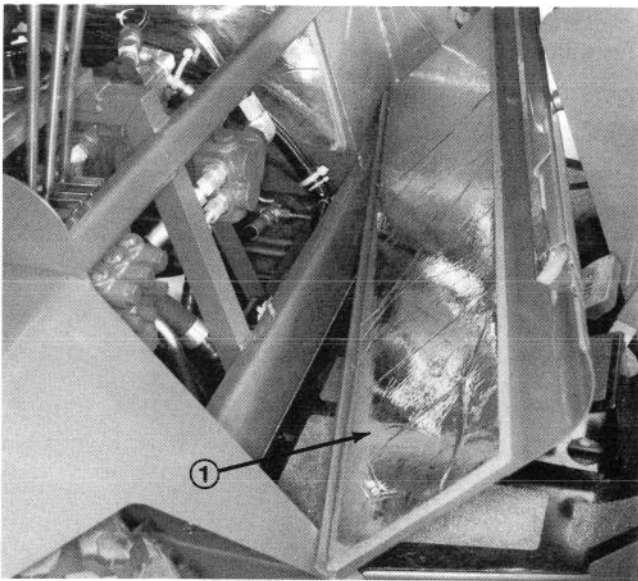

Figure 18
3. Lift and remove front panel (Fig. 18).
5. Install front panel over mounting pins (Fig. 18). Lower seat to its normal position and secure with lock pin (Fig. 16).